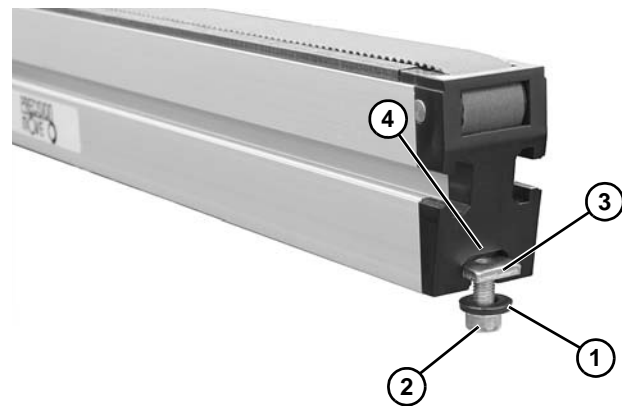

**Figure 104**
- Place pallet (**Figure 104, item 1**) on conveyor and slide pallet through entire length of corner guide (**Figure 104, item 2**) to make sure the pallet does not bind.
- If pallet binds, adjust hex nuts (**Figure 104, item 3**) on both the top and bottom of the guiding up or down to raise or lower the corner guide.